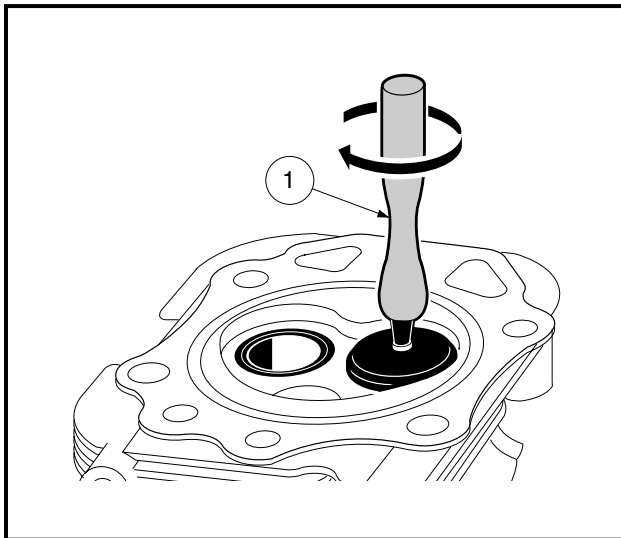

Figure 18-23 Lap Valve To Valve Seat
- 4.2. Use the vacuum cup lapping tool (1) to grip the top of the valve. Rotate the valve in a circular motion to lap the valve to the seat (**Figure 18-23, Page 18-13**).